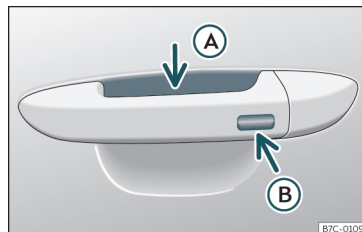

Fig. 119 Driver door lever: sensor surfaces.
- Press and hold the locking sensor surface >>> **Fig. 119** ⑧ on the door handle to close the sunroof. If you release the sensor surface, the closing movement stops.